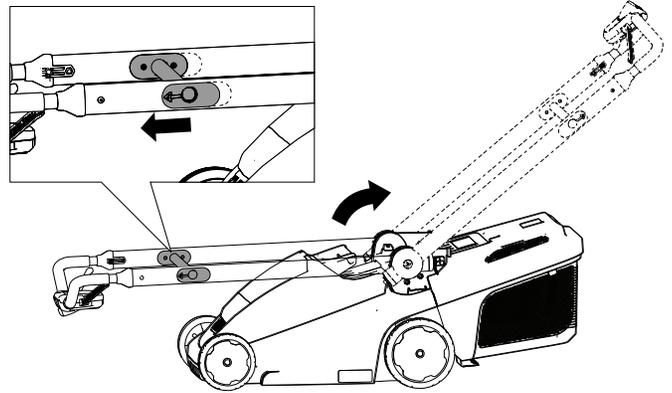

Figure 5
2. Pull the handlebar release brace toward the upper handle to release the handle lock (Figure 5).
3. Move the handle rearward to the operating position and let go of the handlebar release brace (Figure 5).